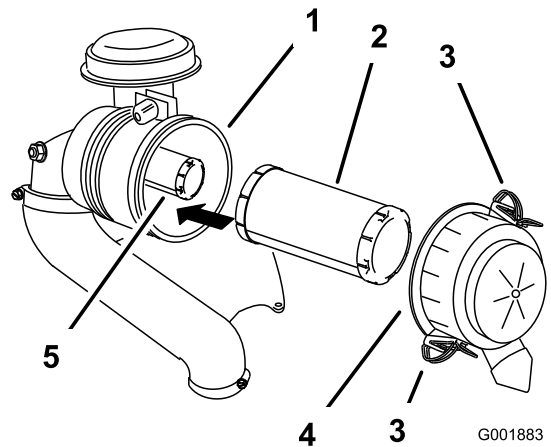

Figure 38
3. Release the latches on the air cleaner and pull the air cleaner cover off the air cleaner body (Figure 38).
5. Gently slide the primary filter out of the air cleaner body (Figure 38).
2. If the safety filter is being replaced, carefully slide it into the filter body (Figure 38).
3. Carefully slide the primary filter over the safety filter (Figure 38).
4. Install the air cleaner cover with the side indicated as **up** facing upward and secure the latches (Figure 38).